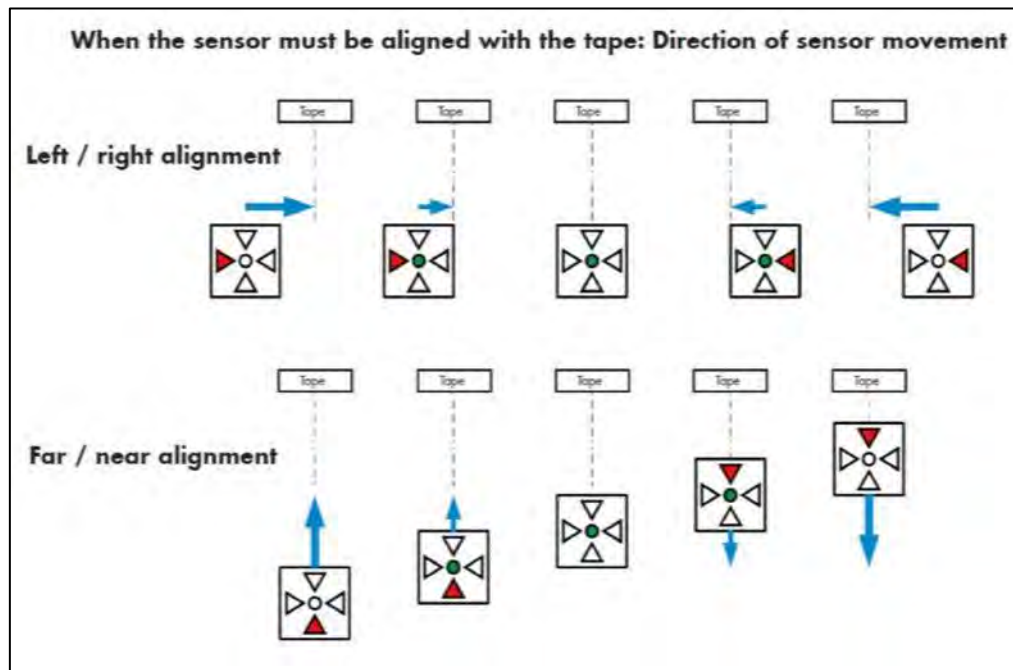

Figure 2-18: Fine Adjustment of the Camera Sensor
- Adjust the camera so only the green LED in the middle of the 4 red arrows is on. See Figure 2-18.